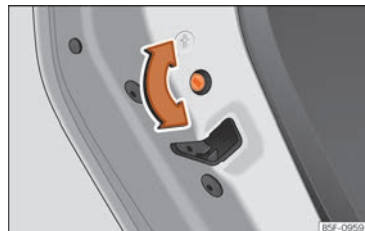

Fig. 57 Left door child lock.
- With the door open, turn the slot with the vehicle key clockwise for the left doors »» Fig. 57 and anticlockwise for the right doors.
- With the door open, turn the slot with the vehicle key anticlockwise for the left doors >>> Fig. 57 and clockwise for the right doors.